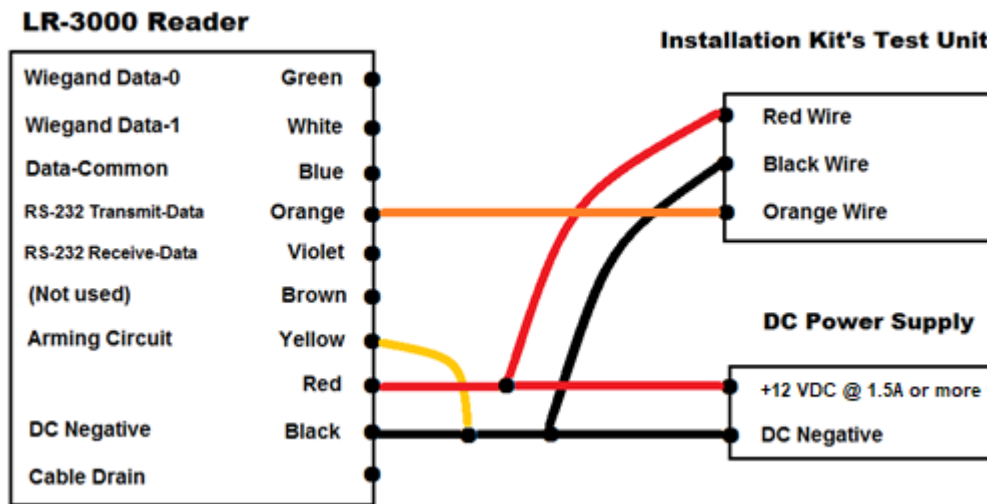

Figure 2 Wiring for quick test
| <ul style="list-style-type: none"><li>• LR-3000 reader (with two LED's.)</li><li>• HT-UHF hangtag (26-bit code), or other tag *</li><li>• Install Kit's Test Unit, cable with 3 clips *</li></ul> | <ul style="list-style-type: none"><li>• PS-12-3.3A power module, cable with 2 clips *</li><li>• Wiring diagram, Figure 2 (below)</li></ul> <p>* A component of the LR-TEK Installation Kit</p> |
- Connect the wires as shown in the wiring diagram, Figure 2 (below).
This step should be taken before the credentials are installed in or on the vehicles. From the LR-TEK Installation Kit, use the test unit, and one of the hand-held test tags, and the wiring diagram in Figure 2 on page 7. The reader does not have to be interfaced with the host system (but they *may* be connected together). Use the DC power module from the LR-TEK Installation Kit *only* if the independent DC power supply is not yet connected.